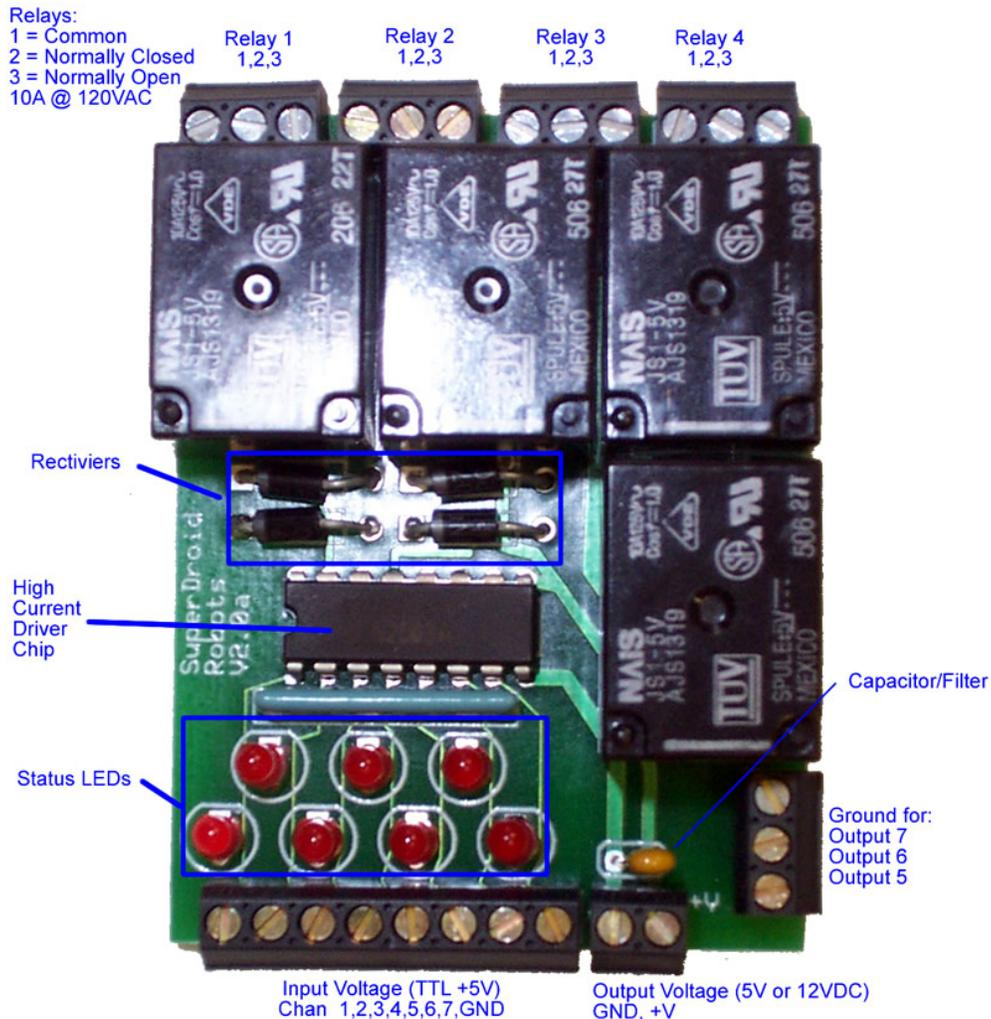

Figure 1: TTL High Current Driver with 4 Power Relays
1. Start by laying the board out in front of you. The Label should be on the middle left topside. Refer to Figure 1.
2. Insert all the LEDs as shown in Figure 1 in a staggered location. The long leg of the LED should be towards the TTL Input edge of the board (they will not work if put in the other way).
3. Insert the resistor network as shown in Figure 1. The orientation of the resistor is important. There is a black dot on the resistor net; it should go into the square pad hole.
4. Insert the Diodes. Orientation of the Diodes is important. It will short the circuit if put in the wrong way. The lead that comes out of the side of the diode with a line on it should go in the square pad hole (face towards the left edge of the board as shown in Figure 1).
5. Insert the capacitor as shown in Figure 1. Orientation is not important.
6. Install the Screw Terminals (if provided) as shown in Figure 1.
7. Insert the relays as shown in Figure 1. All the relays should be placed in their locations at the same time before soldering. Push the relays down so they are all flat and start soldering the terminals, checking to make sure the relays stay flat.
8. Insert the high current driver IC. The orientation is important. The chip will be shorted and will not work if put in wrong. Pin one goes in the square pad hole such that the notch on the chip is closest to the label on the board. Refer to Figure 1.
9. Attach either 12VDC or 5VDC to the Output Voltage using the polarity shown in Figure 1. Turn on the power, no sparks or smoke should appear at this time.